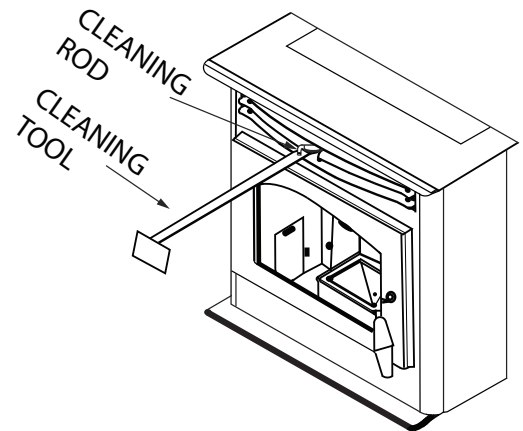

FIGURE 25
- Clean heat exchanger tubes (see "CLEANING" and Figure 25).
- Heat Exchange Tubes – Your US Stove stove is designed with a built-in heat exchange tube cleaner. This should be used every two or three days to remove accumulated ash on the tubes, which reduces heat transfer on the 5040. Insert the handle end (with hole) of the cleaning tool onto the cleaning rod (refer to figure 25). The cleaner rod is located in the grill above the stove door. Move the cleaner rod back and forth several times to clean the heat exchanger tubes. Be